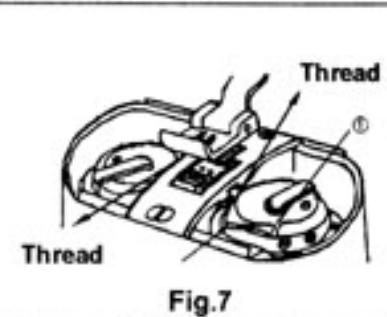
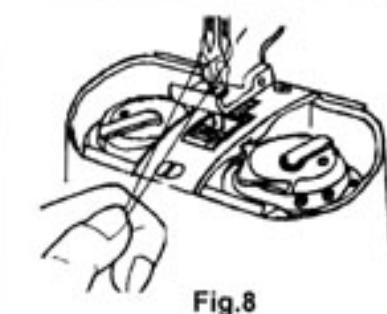

Fig.7
Fig.8
9. How to lead the lower thread (Fig.7、Fig.8):
1) As shown in fig.7, from the slit (1) pass the thread underneath the hook body, and pull it to the right diagonally, and thread will pass through the tension spring (single needle); From the slit (1) pass the thread underneath the hook body, and pull the left thread to the left and the right thread to the right diagonally, and thread will pass through the tension spring (double needle).
2) As shown in fig.8, holding the end of upper thread by left hand, turn the balance wheel slowly one around by right hand, the upper thread will hook out pulling the lower thread simultaneously through the hole of needle plate, and leave the lower thread to the other side of the needle plate. Close the slide plate.